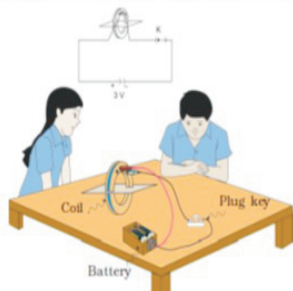

Fig. 10.11.4 Pattern of magnetic field lines produced by a current carrying circular coil
1. Connect the ends of the circular coil in series with the four 2-cell holders, plug key as shown in [Fig 10.11.4].